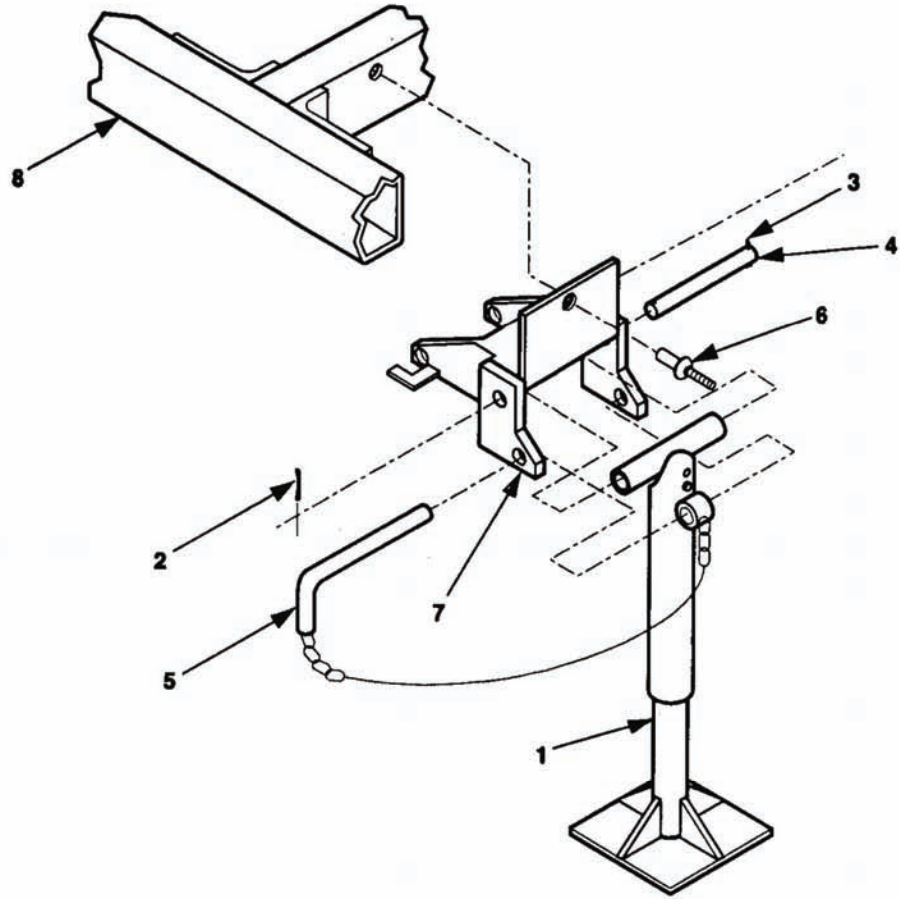

Figure 5-20. Rear Leveling-Support Jack Replacement; LTT Trailer
1. Install bracket (7, figure 5-20) on trailer chassis (8), with three rivets (6)
2. Position leg base (1) and attached parts in bracket (7) and install retaining pin (5).
3. Position leg base (1) and install pivot shaft (4).
4. Install new cotter pin (2 or 3) in pivot shaft (4).